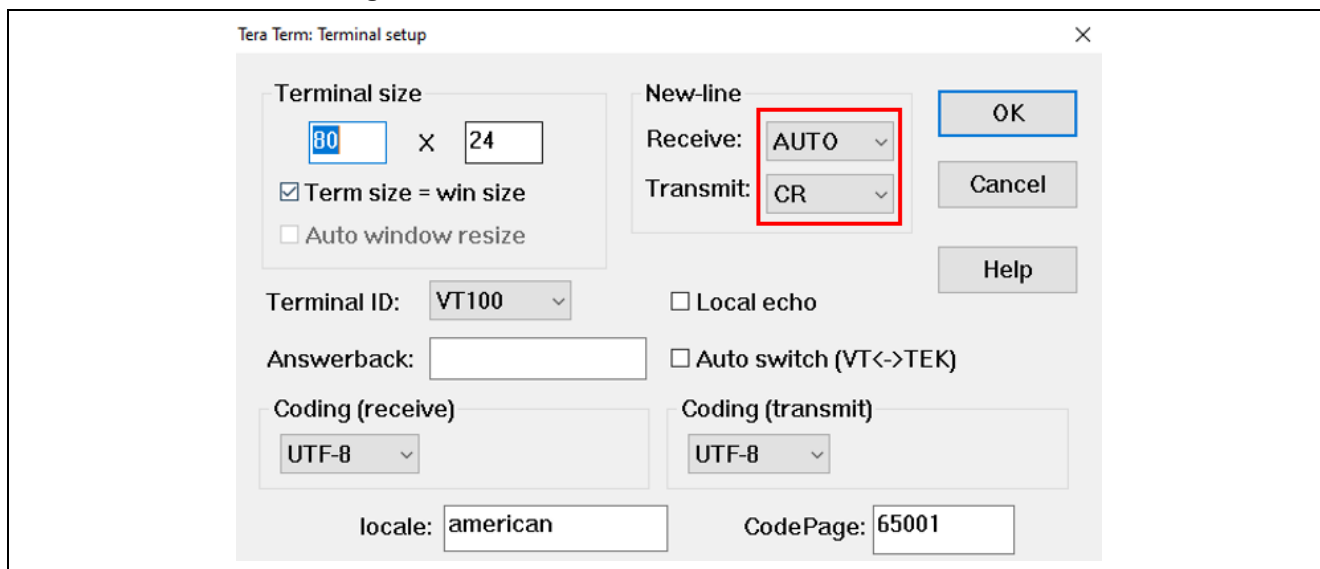

Figure 11. Select Receive: “Auto” and Transmit: “CR” on the Terminal Setting
- Using the **Setup** menu, select **Setup > Terminal...** and select “**AUTO**” as Receive and, select “**CR**” as Transmit, as shown in **Figure 11**.